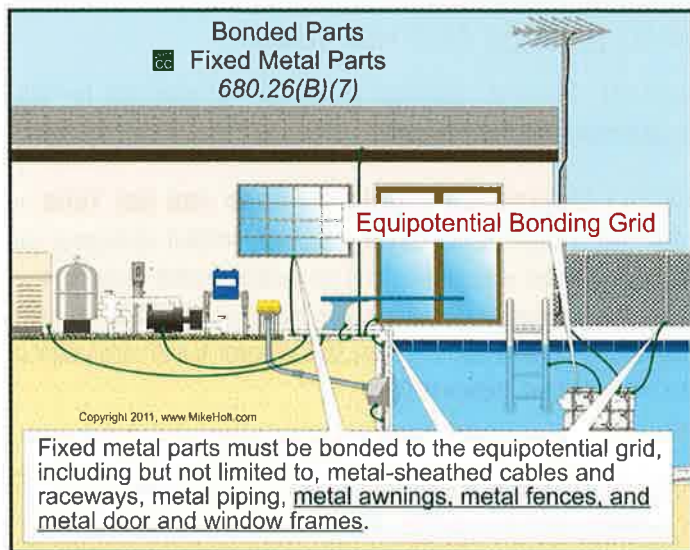

Figure 680-35
(7) Fixed Metal Parts. All fixed metal parts must be bonded to the equipotential grid, including but not limited to, metal-sheathed cables and raceways, metal piping, **metal awnings, metal fences, and metal door and window frames.** **Figure 680-35**